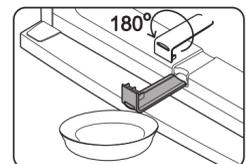

Fig. 7
- Remove the plastic water channel, turn it 180° and connect place it in the opening (**fig. 7**). Place a container to catch water underneath.